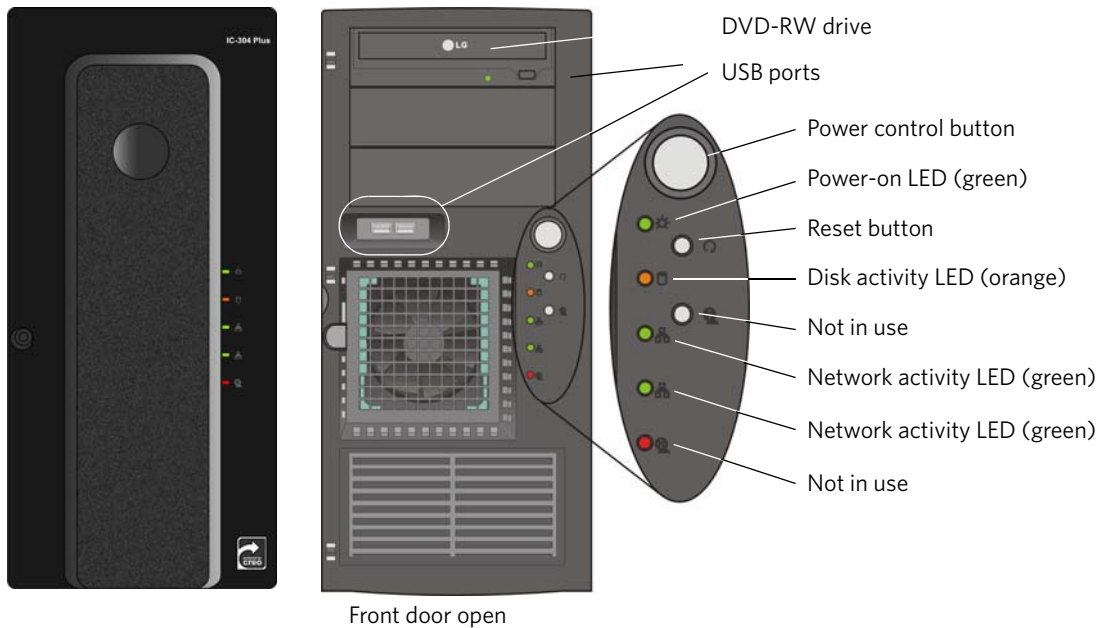

Figure 2: Front door controls and indicators
3. Wait 20 seconds before pressing the power control button on the IC-304 print controller (see Figure 2 on page 3). The ON/OFF LED on the front panel illuminates a steady green.